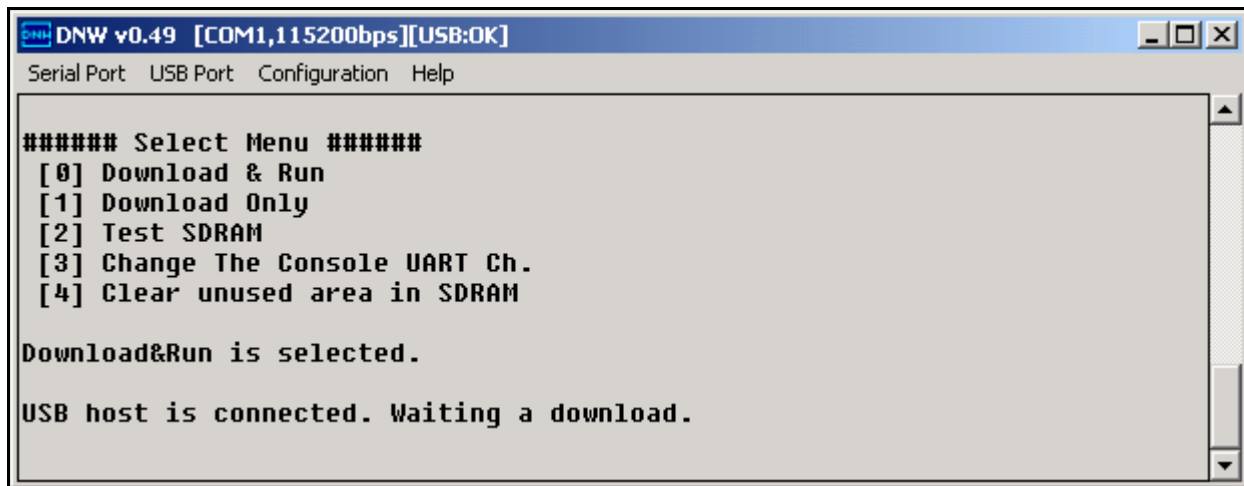

Figure 4-5 Download & Run
7. Please enter '0' to Download and Run the Image on the board. The DNW application window will now appear on your screen as shown below in the figure 4-5.